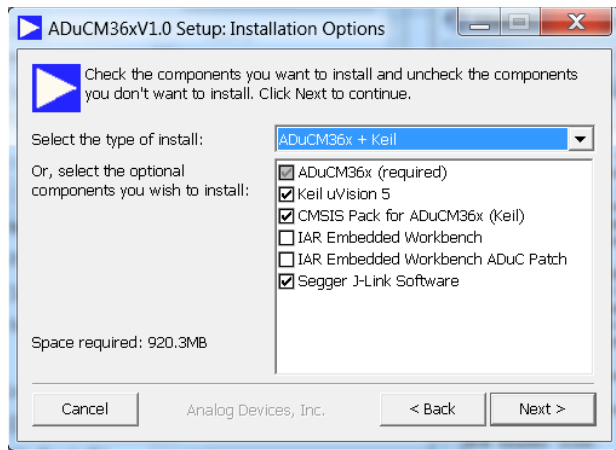
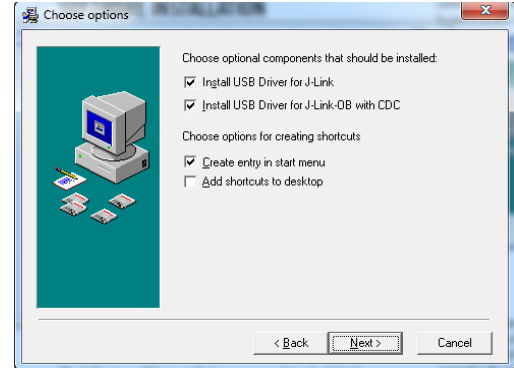

Figure 2. Installation Options
Figure 3. Installing Link Software
3. Double-click **ADuCM36x.exe** and follow the on-screen instructions. A menu displays installation options as shown in Figure 2.
The J-Link software is selected by default in the installation menu, shown in Figure 2. It is advised to leave it selected. The J-Link software automatically installs the J-Link serial port driver. Select **Install USB Driver for J-Link-OB with CDC**, shown in Figure 3. If that step is missed, run **JLinkCDCInstaller\_V1.2b.exe** located in the **ADuCM36x\Segger** folder.